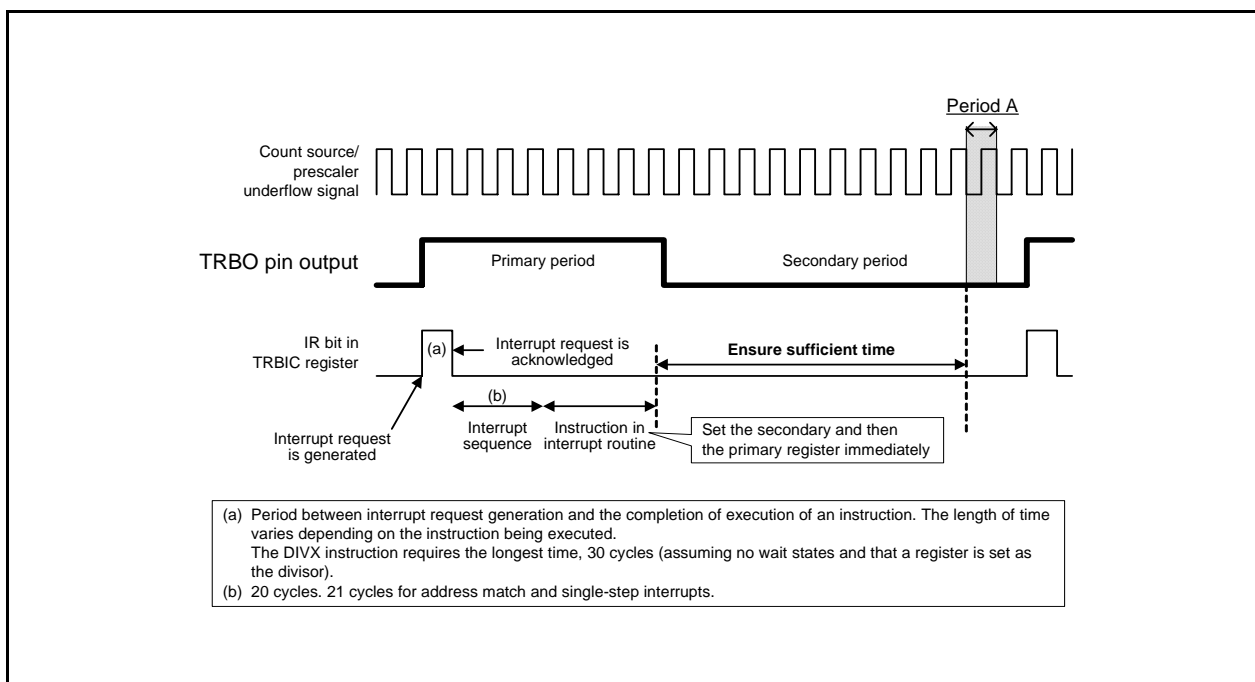

Figure 22.2 Workaround Example (a) When Timer RB Interrupt is Used
- (1) To write to registers TRBPRE and TRBPR during count operation (TCSTF bit is set to 1), note the following points:
- (2) To change registers TRBPRE and TRBPR during count operation (TCSTF bit is set to 1), synchronize the TRBO output cycle using a timer RB interrupt, etc. This operation should be performed only once in the same output cycle. Also, make sure that writing to the TRBPR register does not occur during period A shown in Figures 22.2 and 22.3.
As shown in Figure 22.2, write to registers TRBSC and TRBPR in the timer RB interrupt routine. These write operations must be completed by the beginning of period A.